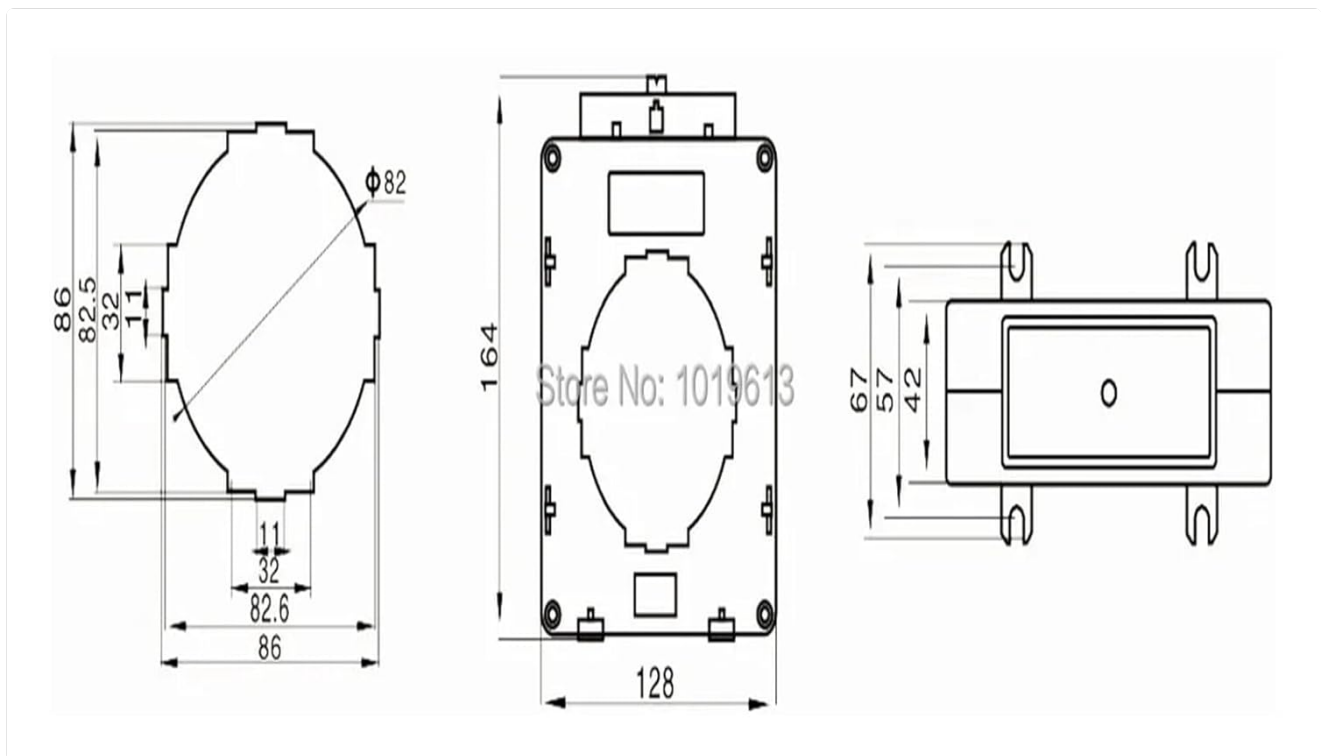

Figure 4.1: Detailed dimensional drawing of the MSQ-80 series current transformer, showing key measurements for installation planning.
3. **Secure Mounting:** Use the provided mounting hardware (screws and brackets) to securely fasten the current transformer to a panel or suitable surface. Refer to Figure 4.1 for dimensions and mounting points.